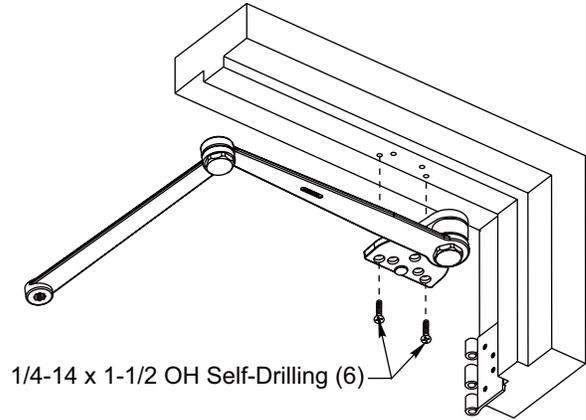

Figure 5
4. Mount Arm to Door Frame. (Figure 5)